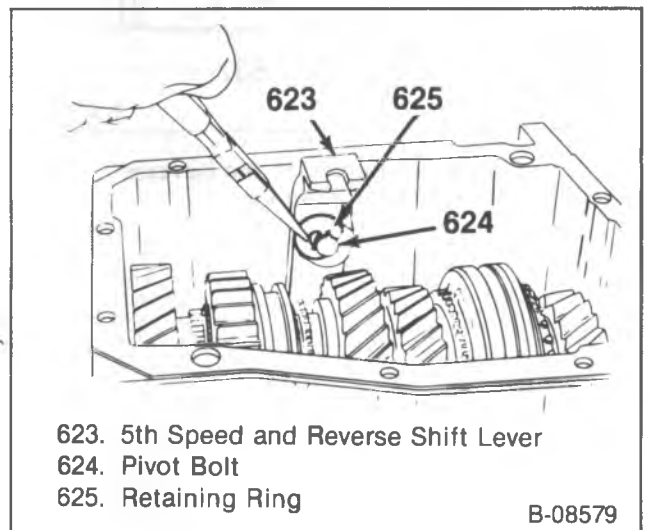
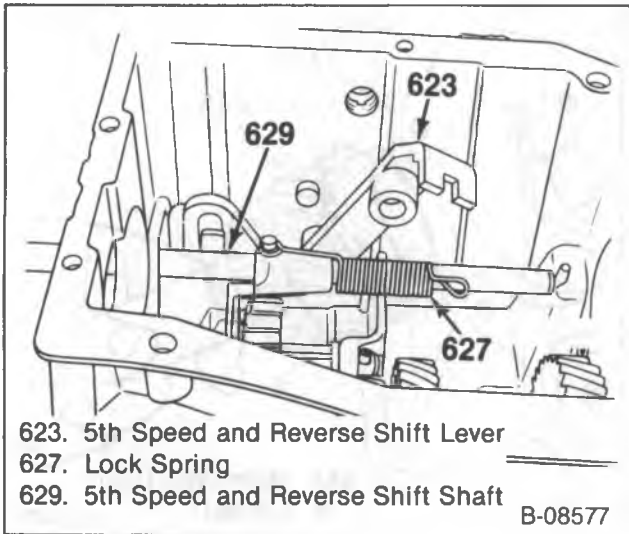
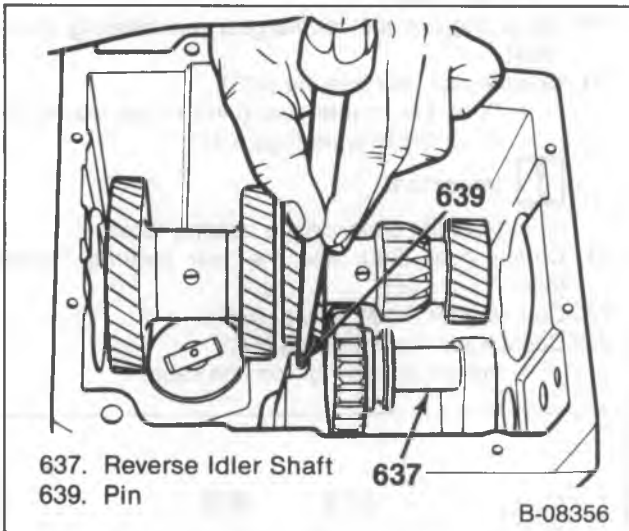

Figure 12—5th Speed and Reverse Shift Lever Retaining Ring
Figure 13—5th Speed and Reverse Shift Shaft
Figure 14—Removing the Reverse Idler Shaft Pin
13. Retaining ring and the reverse shift shaft lever pivot bolt (624) (figure 12).
14. Mainshaft rear bearing race (605).
15. Mainshaft (604).
16. 5th speed and reverse shift shaft (629) (figure 13).
17. 5th speed and reverse shift lever (623).
18. Reverse idler gear (638).
- Drive the pin through the front of the idler shaft (637) (figure 14).